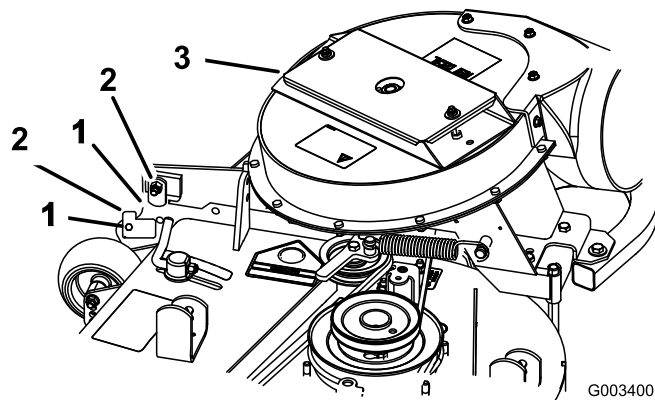

Figure 16
- Close the blower assembly to see if the latches are adjusted correctly. Loosen or tighten the bolt so the latches firmly hold the blower assembly against the mower deck, but can be released by hand (Figure 16).